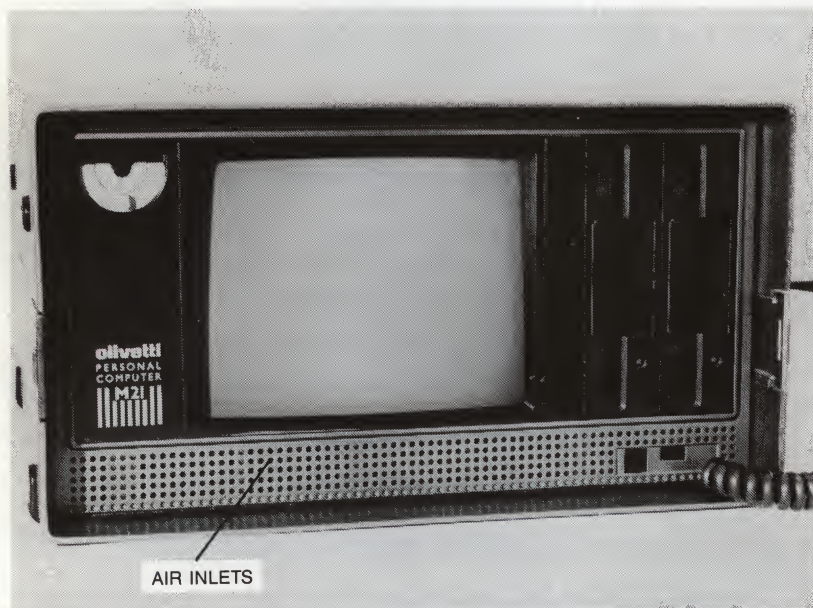

Fig. 2-1 Air Inlets
4. The system is cooled by a fan, with inlets around the base of the basic module (see Figure 2-1). This area must be kept clear of papers or other materials that would obstruct airflow.